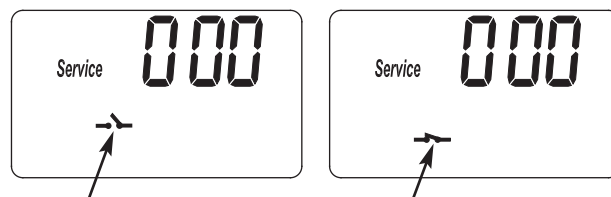

FIG. 39
3. Symbols in the display indicate POSITION switch operation (See Figure 39).